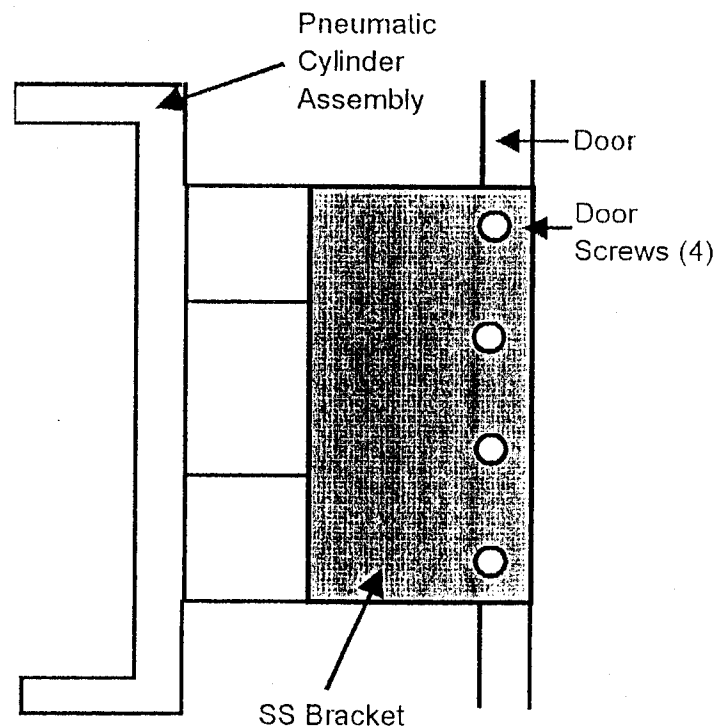

FIGURE 1
3. Door Removal - The auto door is attached to the pneumatic cylinder assembly by two stainless steel brackets. Each bracket (see figure 1), attaches to the door with four screws. After removal of the eight screws, pull the door away from the tool. Extreme caution should be taken to ensure that the pneumatic cylinder bracket assemblies are not turned outward on the tool. When the door is closed, the door photo sensor interlocks are engaged, and if the assemblies are forced outward, the photo sensor may be damaged.